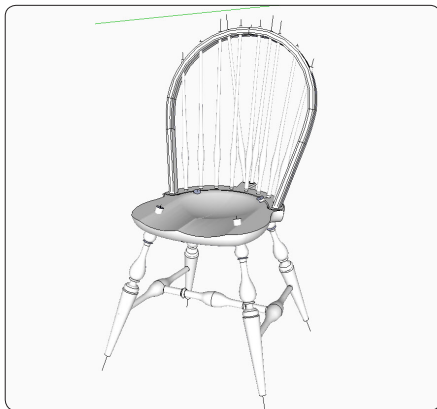

Figure 2. Windsor bowback chair.
- A Windsor chair features turnings set at various angles as well as a bent bow for the back (Figure 2).